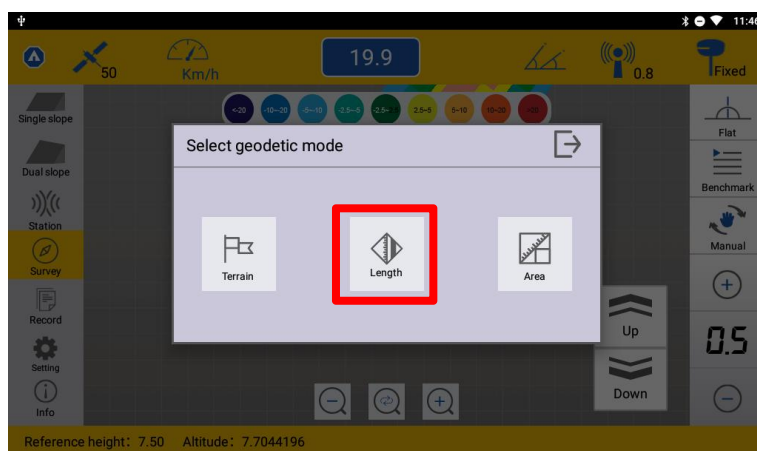

Figure 25
Step1. Click the Survey button and select Length. (Figure 25)